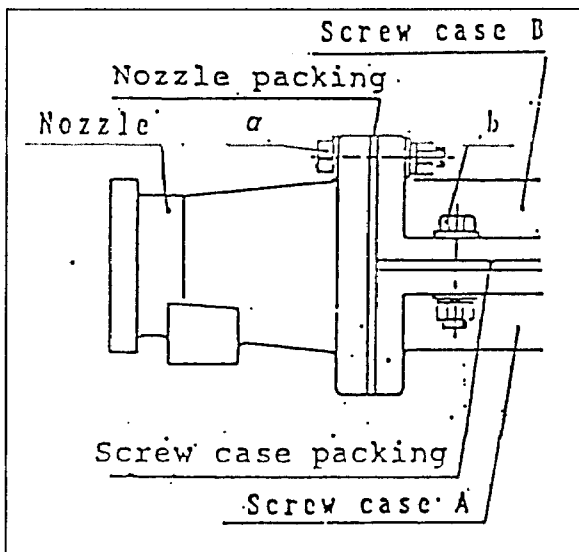

fig. 10
8. Mount nozzle on screw case A and B (parts #6 and #11). Tighten all bolts and nuts. Loosen two upper bolts and nuts (fig. 10).
9. Tighten the ten bolts that were tightened by hand in Step 8 (bolt B in fig. 10).
10. Tighten two bolts loosened in Step 9 (bolt A in fig. 10).